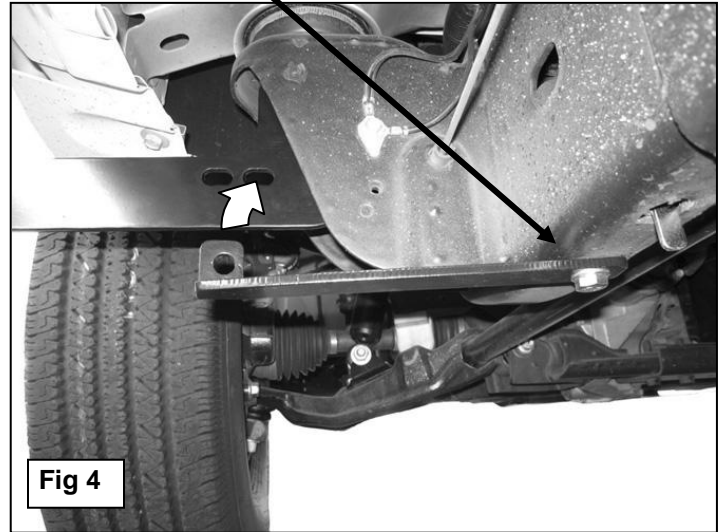
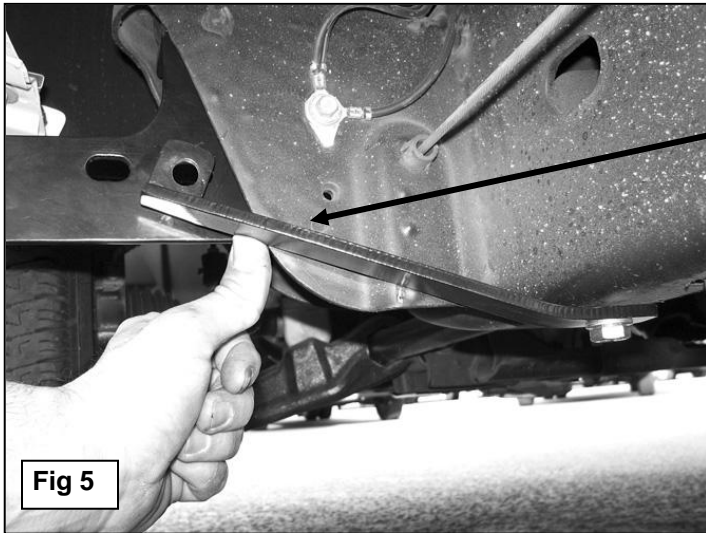

Fig 4
Fig 5
Note that the Front Support Bracket will not reach up to the Mounting Bracket, **(Figure 4)**. Tighten the Support Bracket to the Nut Plate in the frame. Carefully push up on the Support Bracket until it reaches the inside hole in the Mounting Bracket, **(Figure 5)**. Bolt the Support Bracket to the hole in the Mounting Bracket with (1) 10mm x 30mm Hex Bolt, (2) 10mm Flat Washers, (1) 10mm Lock Washer and (1) 10mm Hex Nut, **(Figure 6)**. Do not tighten at this time.